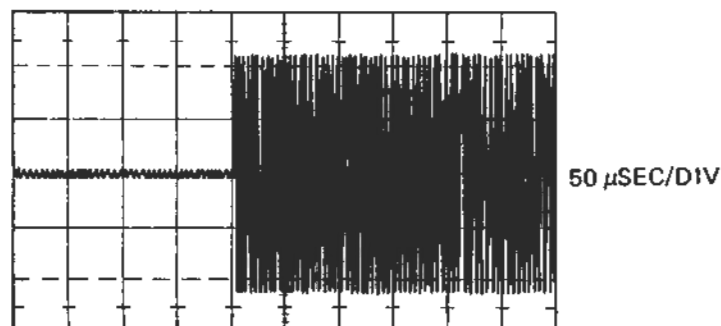

Figure 2-3. Index Pulse and Data Burst
- f. The start of the data burst should lag the negative going edge of the index pulse by 200 μ sec + 50 μ sec. (Figure 2-3.)